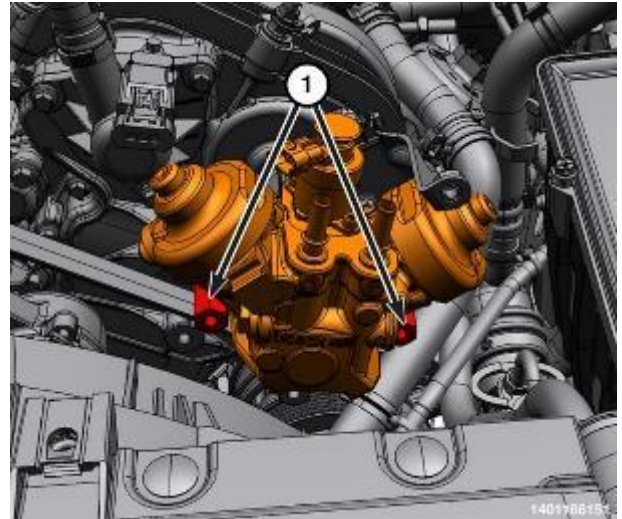

Figure 188 – HPFP Upper Bolts
- 30. Remove the upper bolts (1) from the high-pressure pump (2) (Figure 188). Using Tool, High Pressure Pump Installation VM.10345 Install the studs in the upper locations.
42. Install the high-pressure fuel injection pump upper bolts (Figure 188).